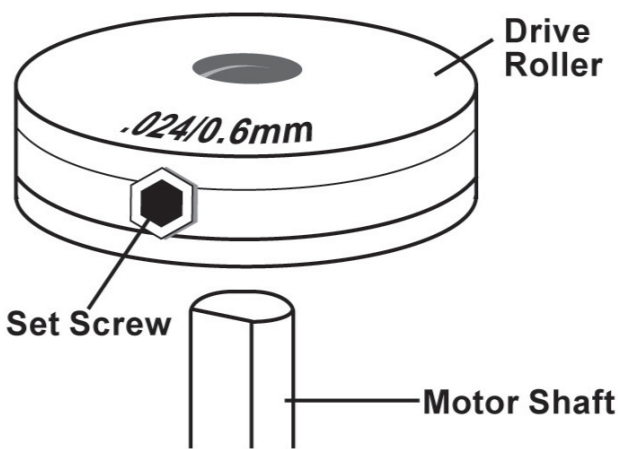

Figure 4. Drive Roller
- Find the side of the drive roller that is stamped with the same wire diameter as that of the wire being installed (see Figure 4, and if in metric, see DESCRIPTION). Push the drive roller onto the motor shaft, aligning the set screw with the flat side of the drive shaft. Make sure the side stamped with the desired wire diameter is away from you.